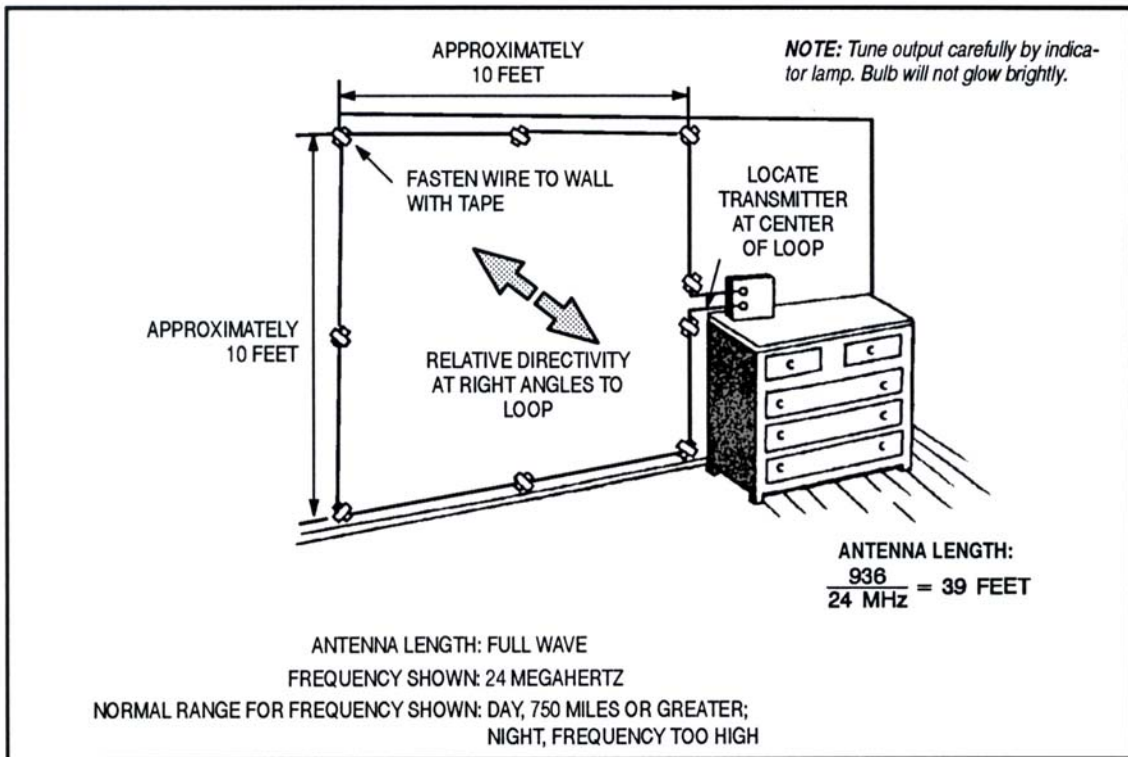

Figure 1. Full-Wave Square Loop Antenna
- (1) Determine the length of antenna for the frequency given.
- (a) Figures 1 and 2 reflect the formulas used to determine the length of the antenna in feet according to the type of antenna constructed.